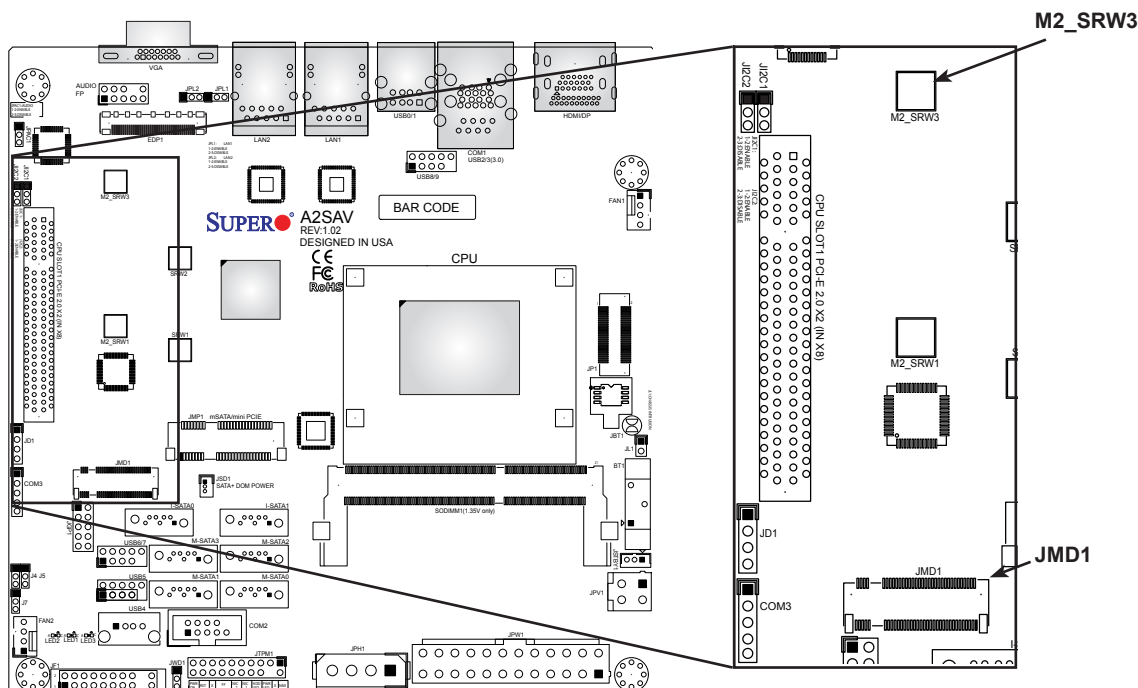

Figure 2-5. Installing an M.2 Solid State Device
3. Locate the M.2 slot (JMD1) and the screw mount (M2_SRW3) that secures it, as shown in Figure 2-5 below.